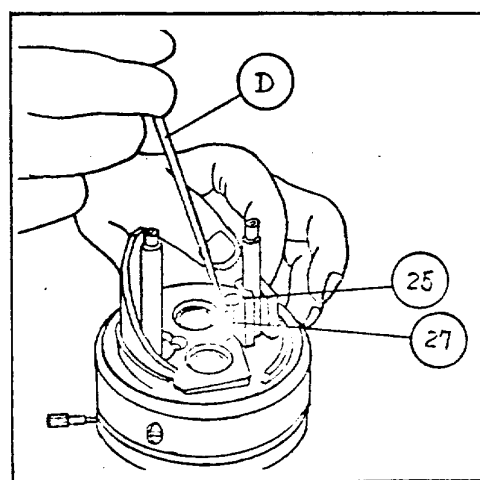

Fig. 45
- 7) Remove the spring (27) from the hook (25) using the special tool (Spring hooker (D)) (Fig. 45).